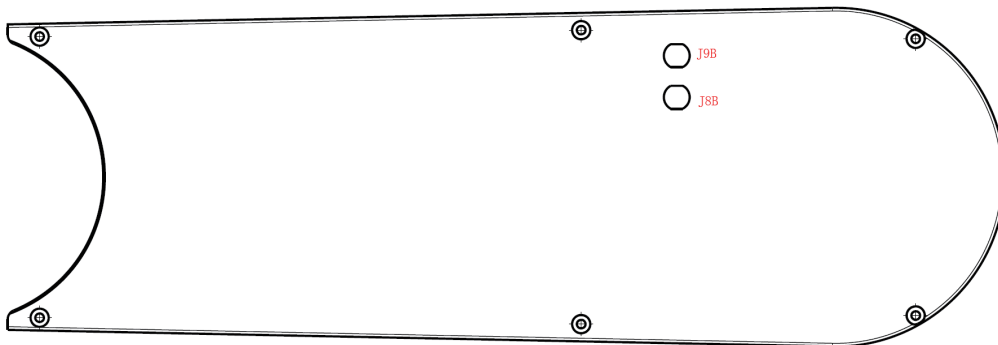

Figure 7
4. When the end is a straight through wire, the projection is shown in Figure 7